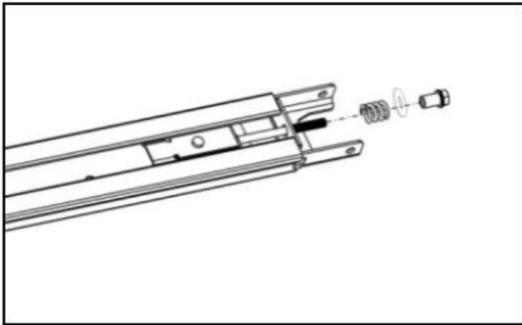

Figure 9
3. As per Fig. 9, release the nut & spring.